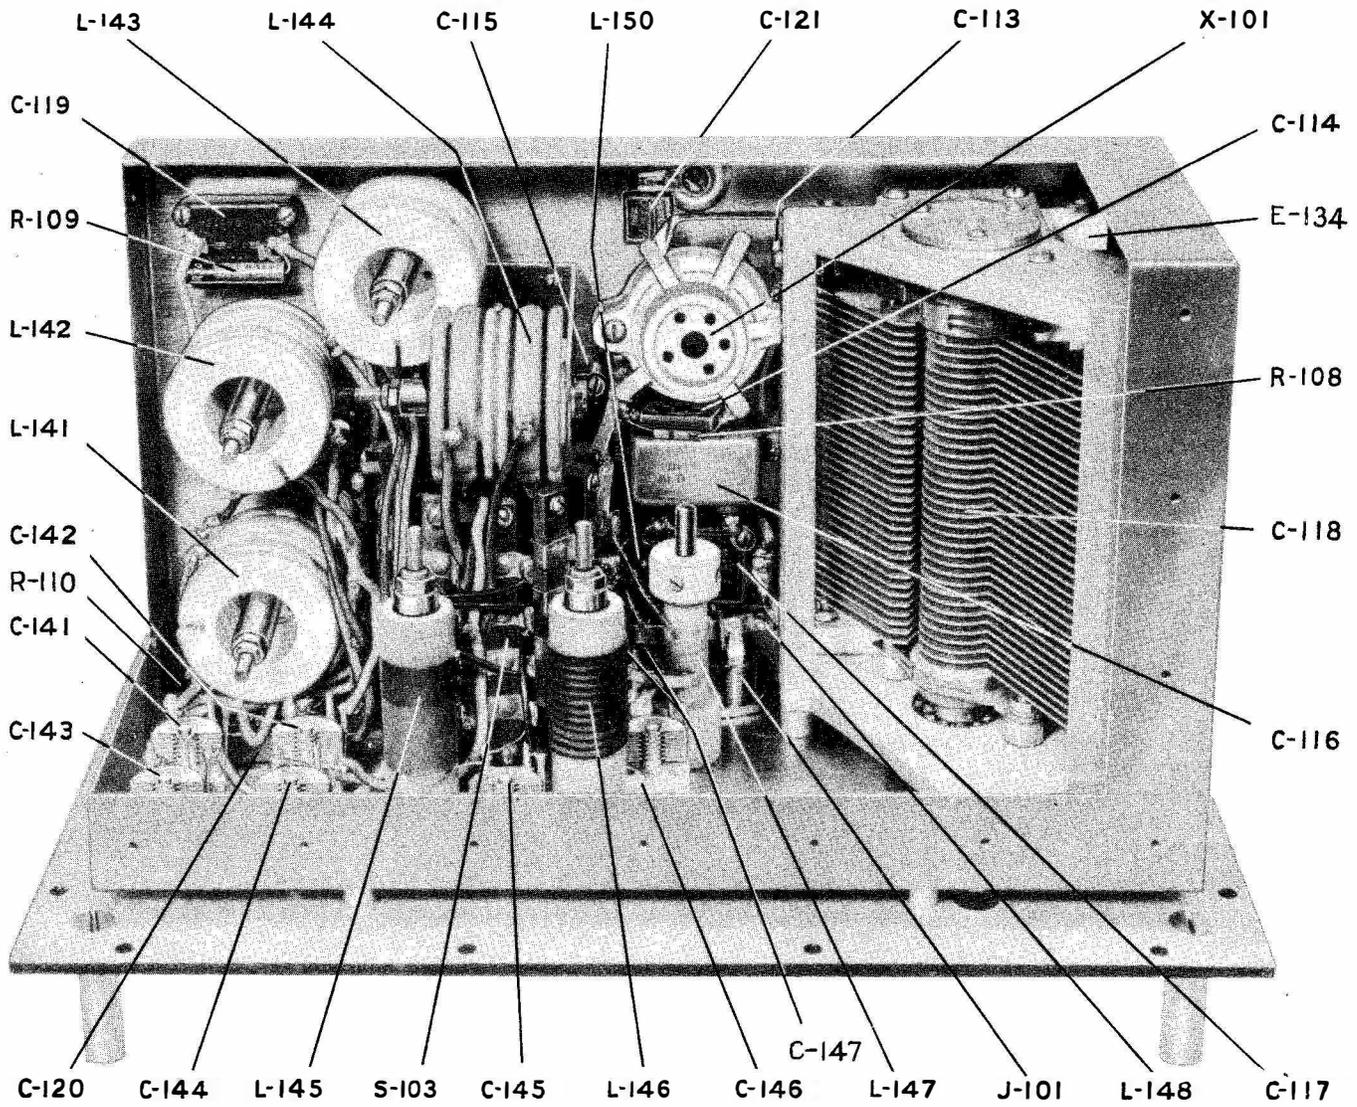

Figure 7-1—Interior View of the Signal Generator (Viewed from Above)
- (1) Figures 7-1 to 7-5 inclusive show various *interior* views of the Signal Generator Unit.